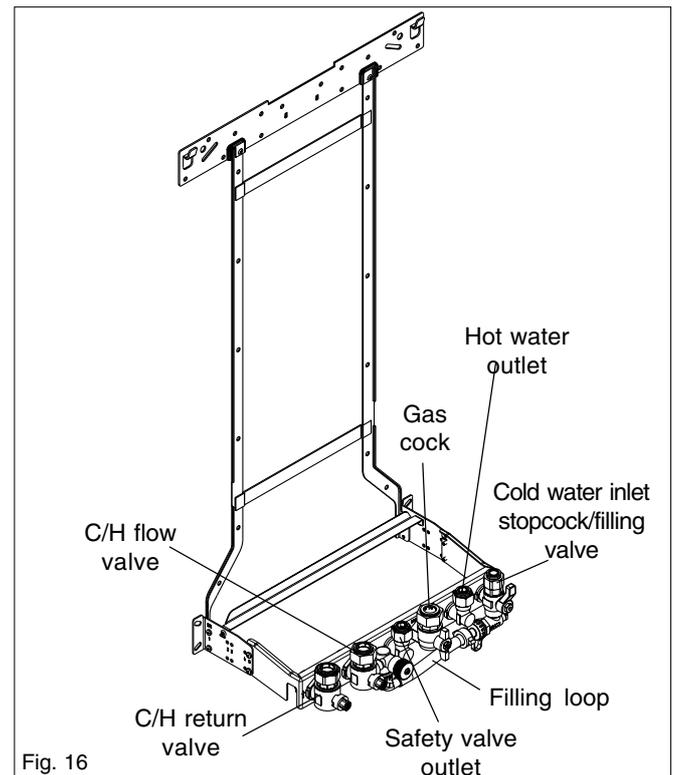

Fig. 16
**4.6.1 GAS (fig. 16)**
**4.6.2 FLOW & RETURN (fig. 16)**
**4.6.3 COLD WATER INLET (Fig. 16)**
**4.6.4 HOT WATER OUTLET (Fig. 16)**
#### 4.6.5 SAFETY VALVE (fig. 16)